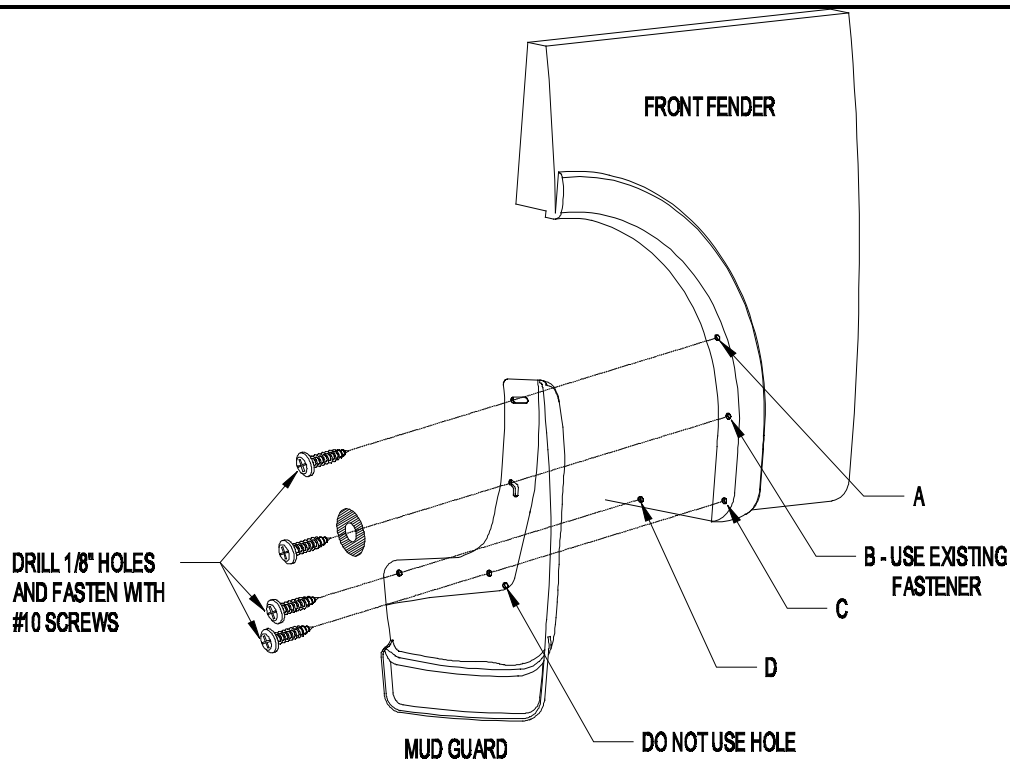

Figure 1
2. Remove factory fastener from locations B (Figure 1).
4. Using the mud guard as a template, center punch and drill an 1/8" hole at location A, C and D (Figure 1).
NOTE: ONE OF THE MUD GUARD HOLES WILL NOT BE USED (Figure 1).